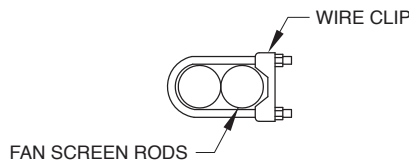
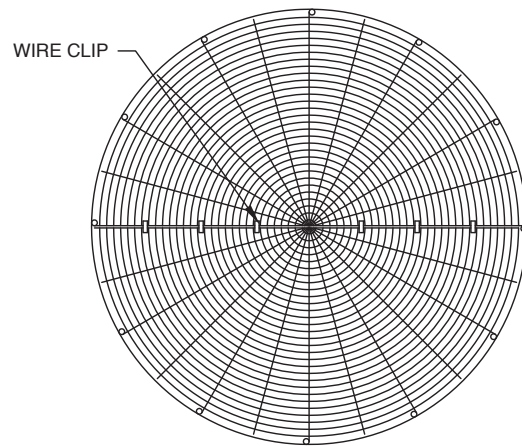

Figure 22 – Wire Clip Arrangement
Figure 23 – Wire Clip Spacing
3. Join the two screen halves with wire clips (Figure 22). There should be 4 wire clips on each side of the fan screen. Space the wire clips evenly across the radius of the fan screen as shown in Figure 23.
3. Join the two screen halves with wire clips (See Figure 22). There should be four clips on either side of the fan screen. Space them evenly as shown in Figure 23.